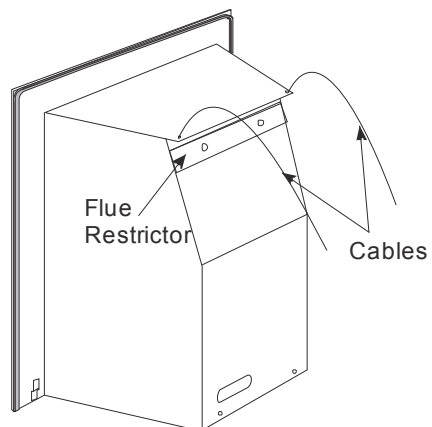

Figure 64
4. Unpack the cable fixing kit and feed the cable ends through the top holes on the sides of the flue outlet (see **Figure 64**).
5. If fitting the fire into a 125mm flue system, remove the **flue restrictor** (see **Figure 64**).